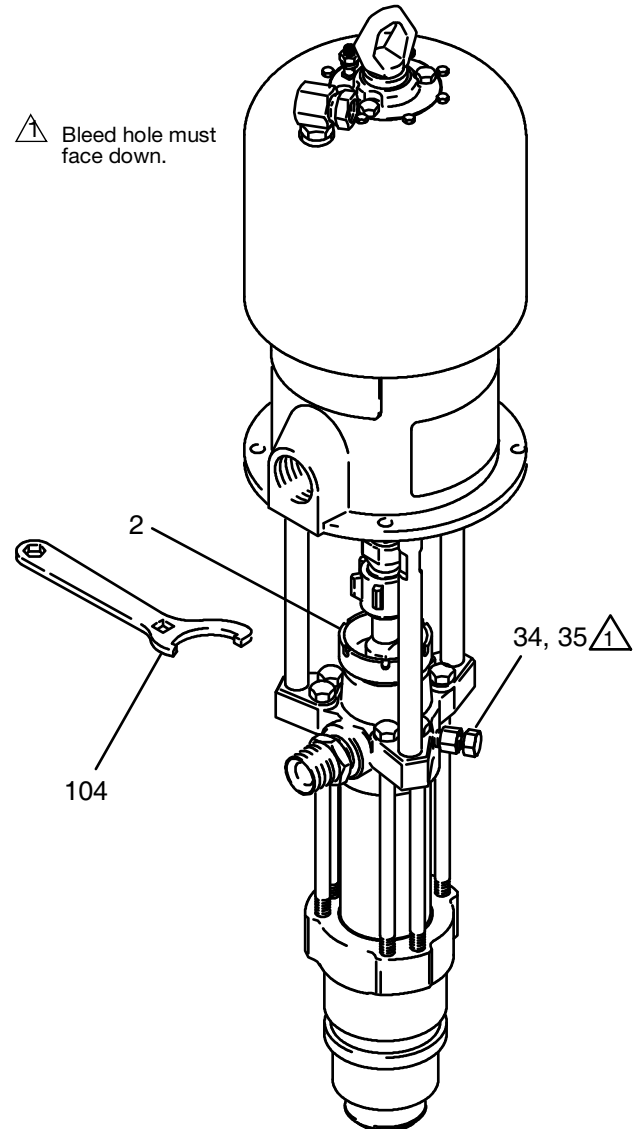

Fig. 5
Fill the packing nut/wet-cup (2) 1/3 full with Graco Throat Seal Liquid (TSL) or compatible solvent. See Fig. 5. Using the supplied wrench (104), adjust the packing nut weekly so it is just snug; do not overtighten. Follow the **Pressure Relief Procedure** above before adjusting the packing nut.
If the pump fails to prime properly, open the bleeder valve plug (35) slightly. Use the bleed hole, on the underside of the valve body (34), as a priming valve until the fluid appears at the hole. See Fig. 5. Close the plug (35).
**NOTE:** When changing fluid containers with the hose and gun already primed, open the bleeder valve plug (35), to assist in priming the pump and venting air before it enters the hose. Close the bleeder valve when all air has been eliminated.